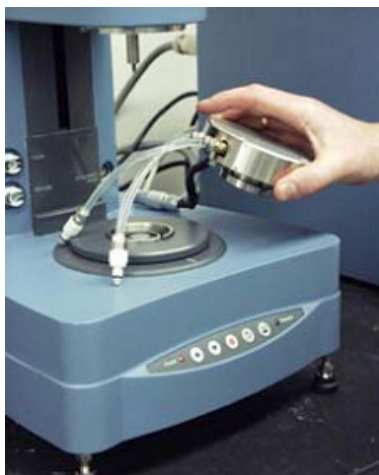

Figure 5.9
3. Remove the attachment from the rheometer. See Figure 5.9.